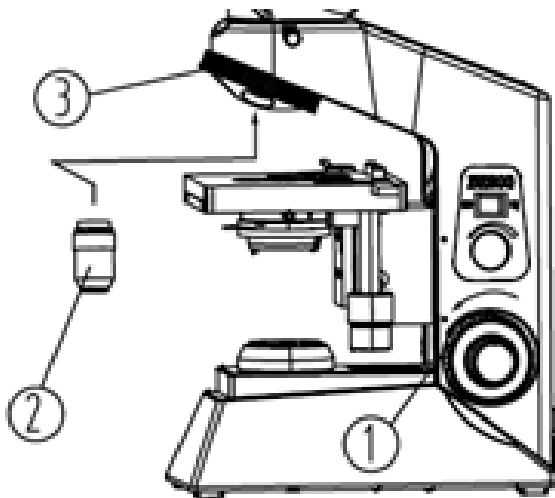

Fig.6 Installing Objectives
- Turn the coarse knob (① in Figure 6) to move the stage down for easy access to the nosepiece.
- Screw in the objectives (② in Figure 6) from lower power to higher power moving clockwise.